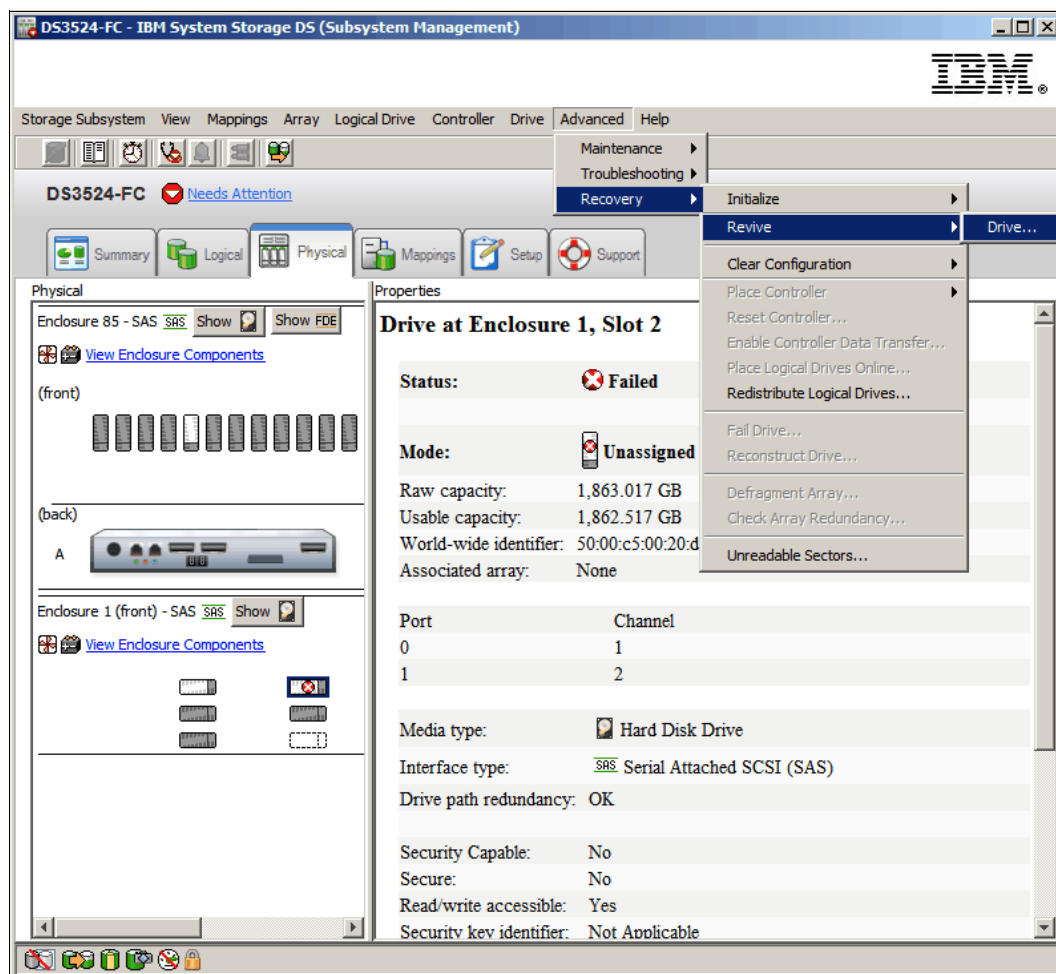

Figure 14-129 Revive drive
2. Click **Advanced** → **Recovery** → **Revive** → **Drive** as shown in Figure 14-129 on page 416.